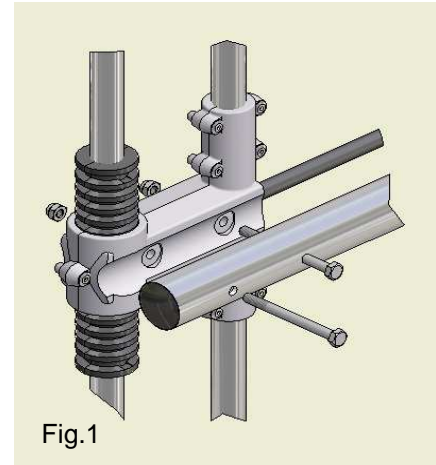

Fig.1
- STEP 1. Mount dipole onto support boom with the two bolts supplied. **(See fig.1)**